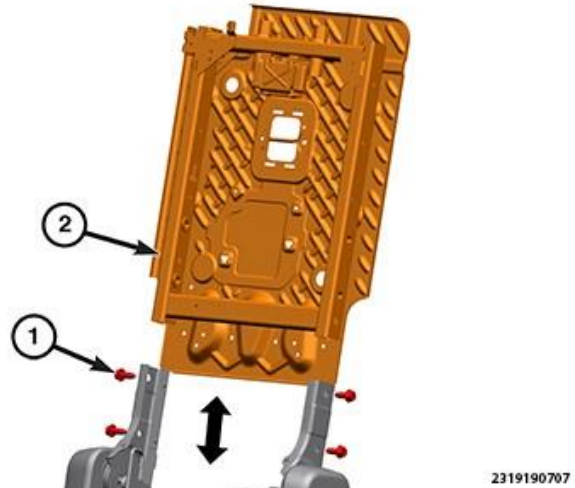

Figure 65 – Seat Back Frame
36. Remove the four bolts (1) from the seat hinges (Figure 65).
37. Lift the seat back frame (2) to remove it from the seat hinges then place it on a work surface for further disassembly (Figure 65).
45. Position the seat back frame (2) to the seat hinges (Figure 65).
46. Install the four bolts (1) to the seat hinges. Tighten the bolts to 60 N·m (44 ft. lbs.) (Figure 65).